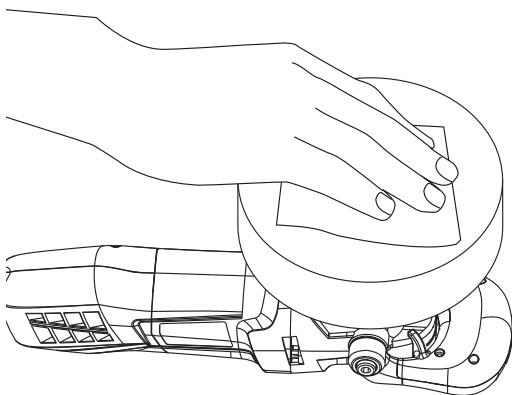

Figure 5
3. SPREADING THE POLISH (SEE FIG. 5)